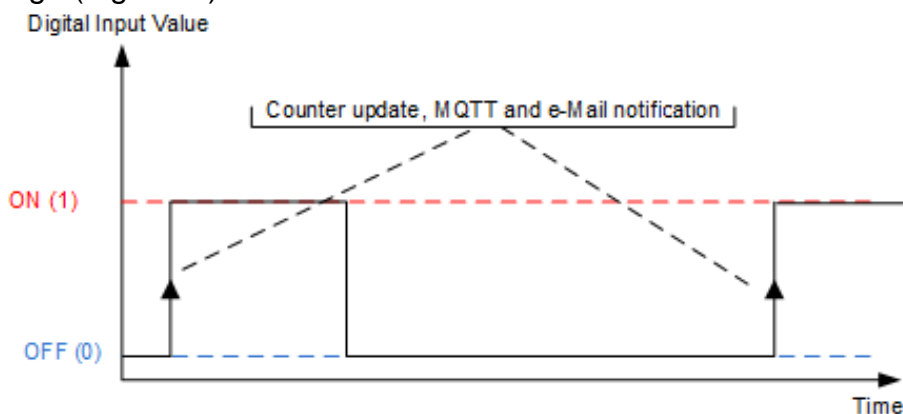

Figure 7.13. Counter update and notifications when **Edge** is set to "1 (On)"
- **1 (On)** – The counter is incremented on the rising edge (0 -> 1). With MQTT enabled and **MQTT Publish Mode=Edge Triggered** the rising edge triggers a notification message. The e-Mail (if enabled) is sent on rising edge (Fig. 7.13).